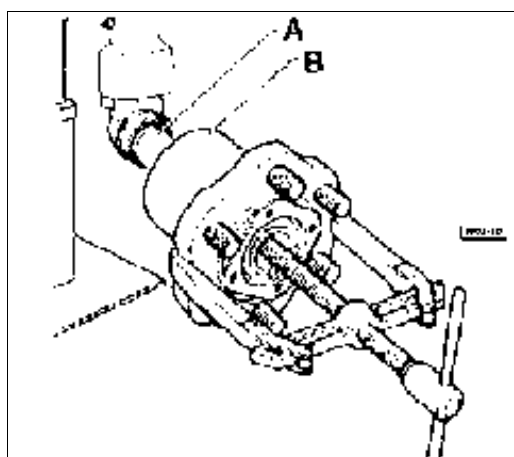

Fig. 18 - Using a puller to remove the wheel hub.
- Using a universal puller withdraw whole wheel hub **B** from pin, (Fig. 18).